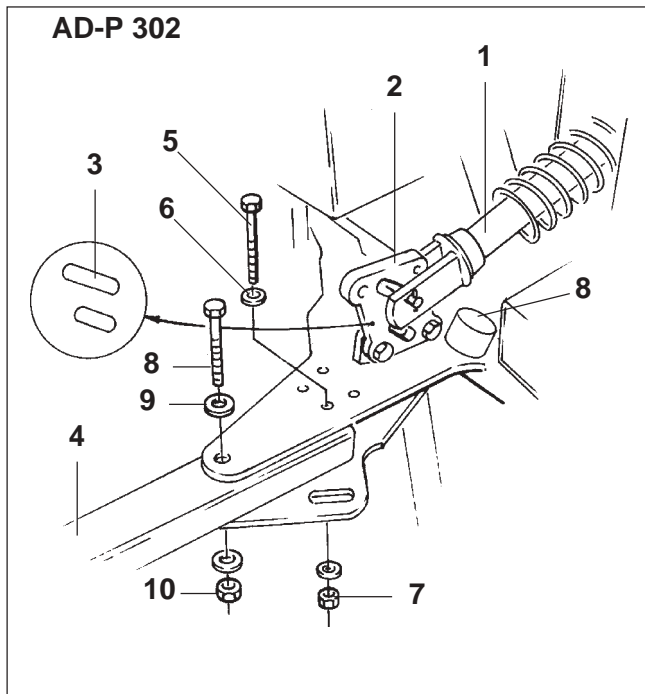

Fig. 23.5
The hydraulic ram (Fig. 23.5/1) has to be fitted to the bracket (Fig. 23.5/2) in the longer slotted hole (Fig. 23.5/3). It may be necessary to bolt the link (Fig. 23.5/2) into another hole.
Bolt marker arms (Fig. 23.5/4) to it by:
- one hex. bolt M6 x 90, 8.8 DIN 931 (Fig. 23.5/5),
- two washers 6,4 x 18 x 1,6 DIN 9021 (Fig. 23.5/6) and
- one securing nut M6, 8 DIN 980V (Fig. 23.5/7).
- one hex. bolt M14 x 100, 8.8 DIN 931 (Fig. 23.5/8),
- two expansion pins 14 DIN 6796 (Fig. 23.5/9) and
- one securing nut M14, 8 DIN 980V (Fig. 23.5/10).
The buffer blocks (Fig. 23.5/8) must never be removed and in case of wear must be replaced!
If a marker hits an obstacle during operation, the marker arm can give way to the obstacle by moving to the rear. In this case a **hex. shear bolt M6 x 90, 8.8 DIN 931**, (Fig. 23.5/5 resp. 23.6/5) will shear off.